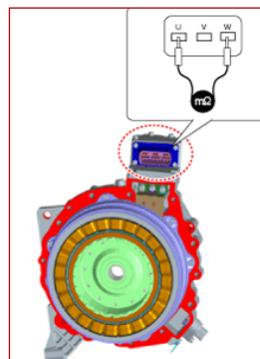

Fig. 4. (left)
- **Phase-to-Phase resistance** (see Fig. 4): This test checks the stator winding resistance phase-to-phase.